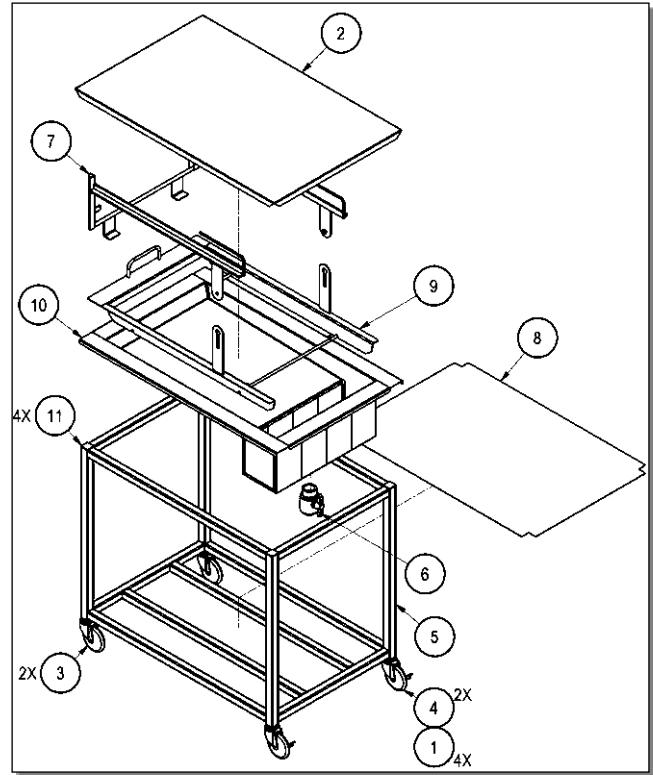

Figure 1, HG18EZ Glazer Assembly with box-shaped glaze kettle. (Glazer may have a sloping kettle)
See Figure 1 opposite. Glazer may be partially assembled on delivery.
Note: The optional **Glaze Kettle Cover** (2) can be installed onto the kettle after the **Upper Frame** and **Screen Support** are removed. (See Figure 1.)